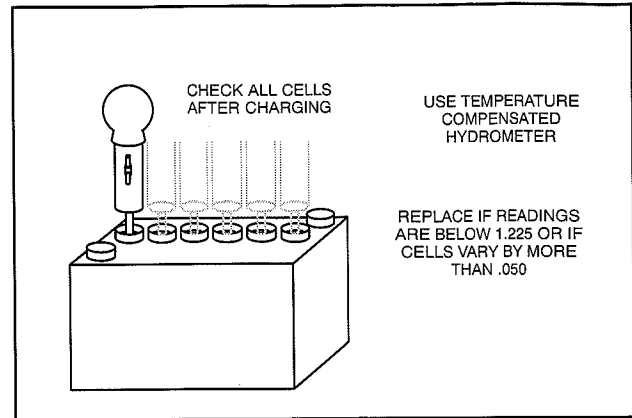

Fig. 29 - Checking 12 V Battery Cells (Lead Acid, Wet Cell, With Fill Caps)
3. With battery fully charged, check specific gravity readings (unless maintenance free type) of each cell with a Battery Hydrometer and record readings (Fig. 29).